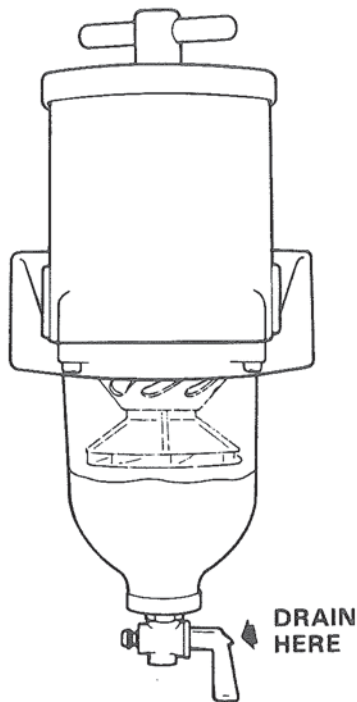

Figure 9. Primary Fuel Filter.
5. **Fuel Filter.** Drain primary fuel filter daily to remove all water and other contaminants. Open petcock at the bottom of the filter and drain into a cup until only clean fuel comes out. Figure 9. Tighten petcock securely to prevent accidental loosening.